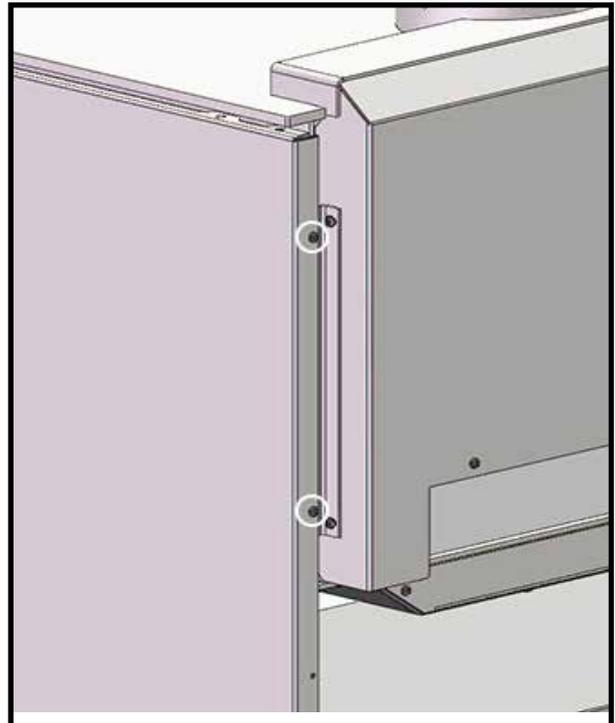

Figure 12: NEOVIEW 2.5 LE Panel - Rear Screws.
2. Using the screws and fibre washers provided, attach the back of the panel to the mounting bracket on the rear shield. Put the fibre washer over the screw so it is between the screw head and the enamel material of the panels to avoid cracking or chipping the enamel. Figure 12.